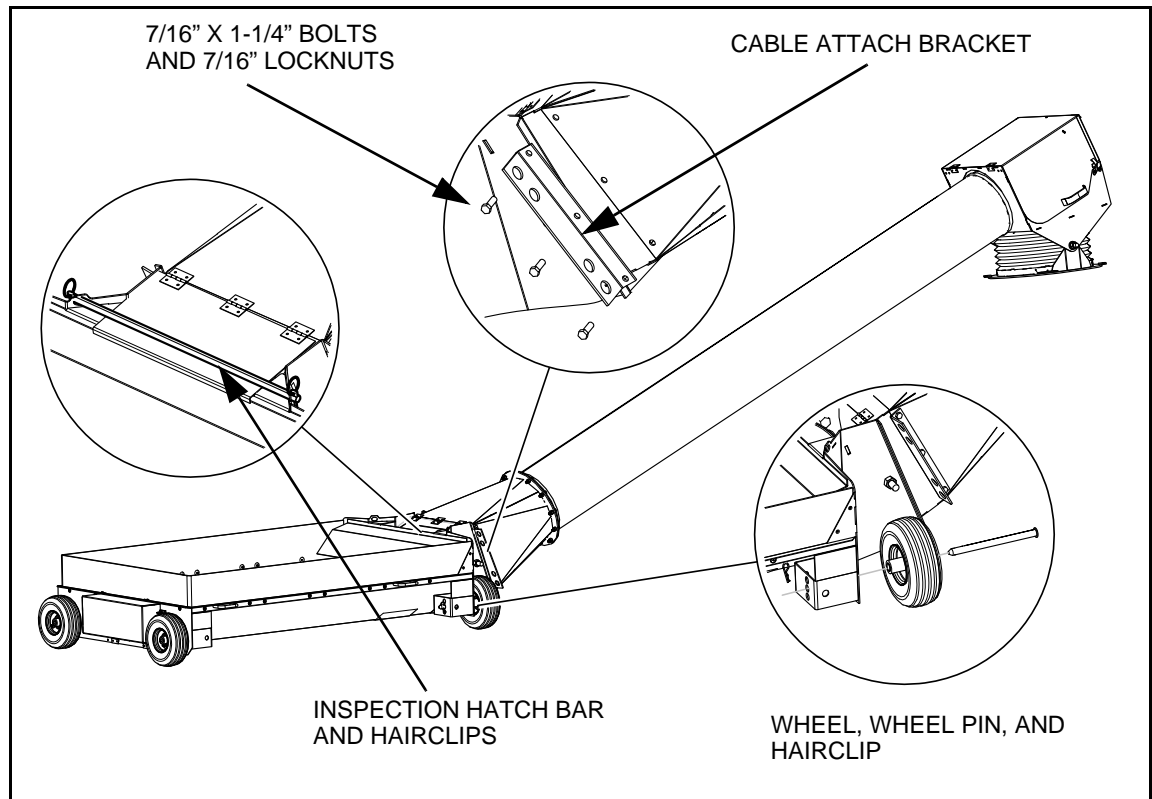

Figure 3.35 Connecting the Wheels, Inspection Hatch Bar, and Hopper Cable Attach Bracket
7. Attach the 4 solid wheels to the 4 hopper corners with the axle pins and hairpins. There are 3 height settings (Figure 3.35) that can be used according to preference.